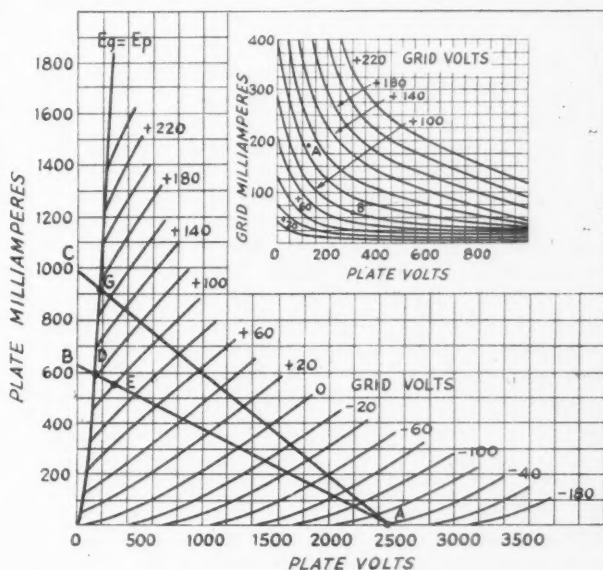

Fig. 1 — $I_p E_p$ and $I_g E_g$ characteristic curves for the Amperex HF200 tube upon which calculations discussed in the text are based.
5) The peak grid current per tube is found on the $I_g E_g$ curves shown in Fig. 1.